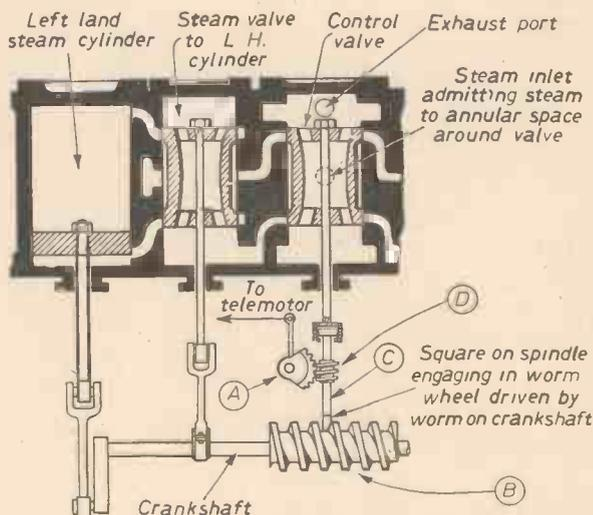

Fig. 3.—Valve gear of steam steering gear.
The valve gear and the hunting gear of this type of engine are interesting and are shown in Fig. 3. Movement of the wheel by the helmsman is transmitted by the telemotor and causes the quadrant (A) partially to rotate in either direction depending on which way the rudder is to turn. This moves the control valve and allows steam to enter the appropriate cylinder. The engine starts to rotate and moves the tiller in the direction required but at the same time the spindle (C) is rotated through the worm wheel (B) and causes the worm (D) to move along the quadrant (A) returning the control valve to its original position. When this position is reached steam is cut off from the cylinder and the engine stops. The rudder position will now corres-